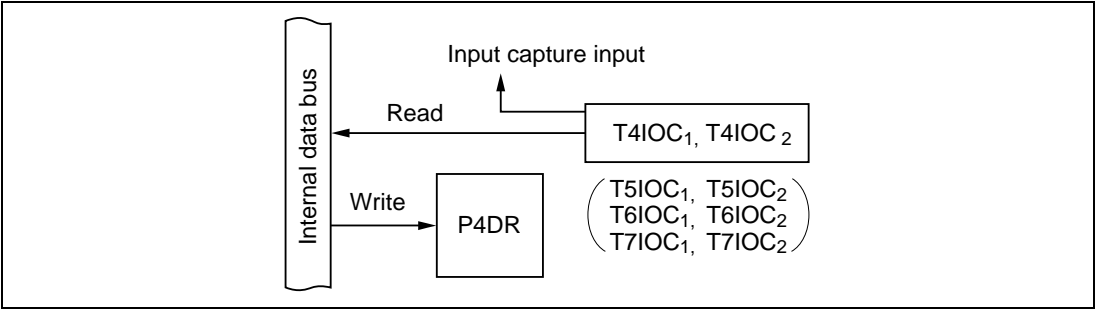

Figure 10-26 Input Capture Combined with General-Purpose Input (Modes 1 to 7)
(5) **Timer Input Combined with General-Purpose Input (Modes 1 to 7):** Figure 10-26 shows a block diagram illustrating the input capture function when combined with general-purpose input. Table 10-19 indicates register read/write data. An input capture pin can also be read as an input port, to monitor the timer input level at T4IOC₁, T4IOC₂, T5IOC₁, T5IOC₂, T6IOC₁, T6IOC₂, T7IOC₁, or T7IOC₂.